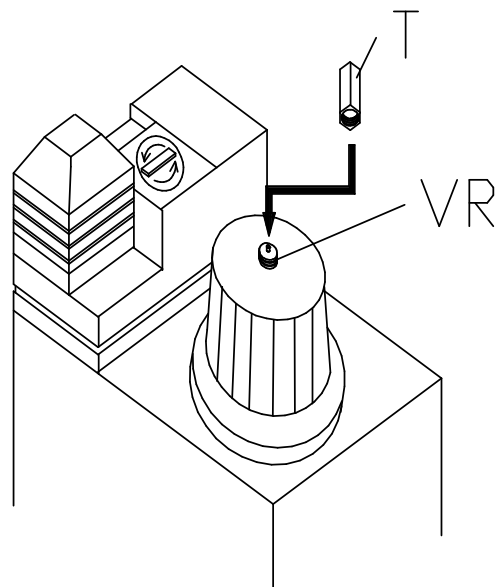

Fig. 8-10. DMVDLE
- Set solenoid valve Fig. 8-10. to the max. position, then lower gas delivery by tightening the regulating Screw with a screwdriver until valve pin opening as 70% of the max. one.
High or low start flame is obtained by increasing or diminishing displacement with respect to the horizontal line. Since time available to carry out start flame setting is quite reduced, it is advisable to disconnect terminal and connect it again after operation. If do not obtained ignition flame, you must adjust the Initial lift of the valve. (Fast opening adjustment) For fast opening adjustment, remove the cap T and insert it in the pin VR with its groove up. To reduce-firing output screw it up, to increase, unscrew it. (see Fig 8-10.)